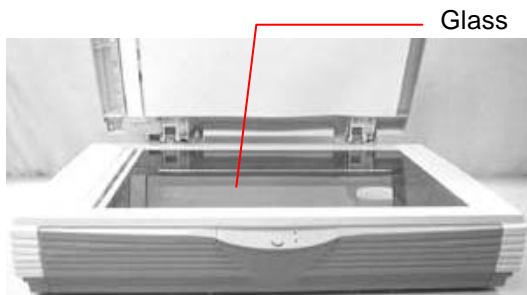

Figure 6-2 The Cleaning Area
- ii). Open the ADF unit and document cover as shown in Figure 6-2. Wipe the glass of flatbed area by moving the swab from side to side.